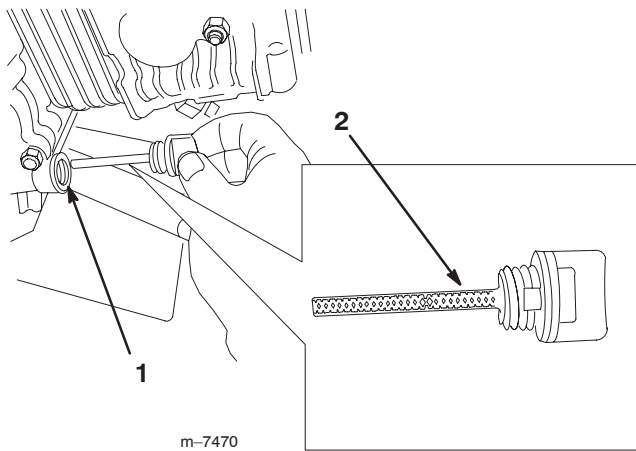

Figure 7
3. Clean around the oil dipstick (Fig. 7).
4. Remove the dipstick and wipe the end clean (Fig. 7).
5. Slide the dipstick fully into the dipstick tube without threading it into the filler neck (Fig. 7).
7. If there is no or little oil on the dipstick, add 10w30 engine oil to the filler hole until it comes to the edge of the filler hole (Fig. 7 and 8).